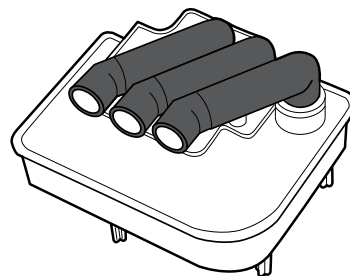

Fig. 6 — Elbow Connections Installed on Filter
5. Install the 3 elbow connectors to the filter. Figure 6 shows the correct orientation of the elbows.